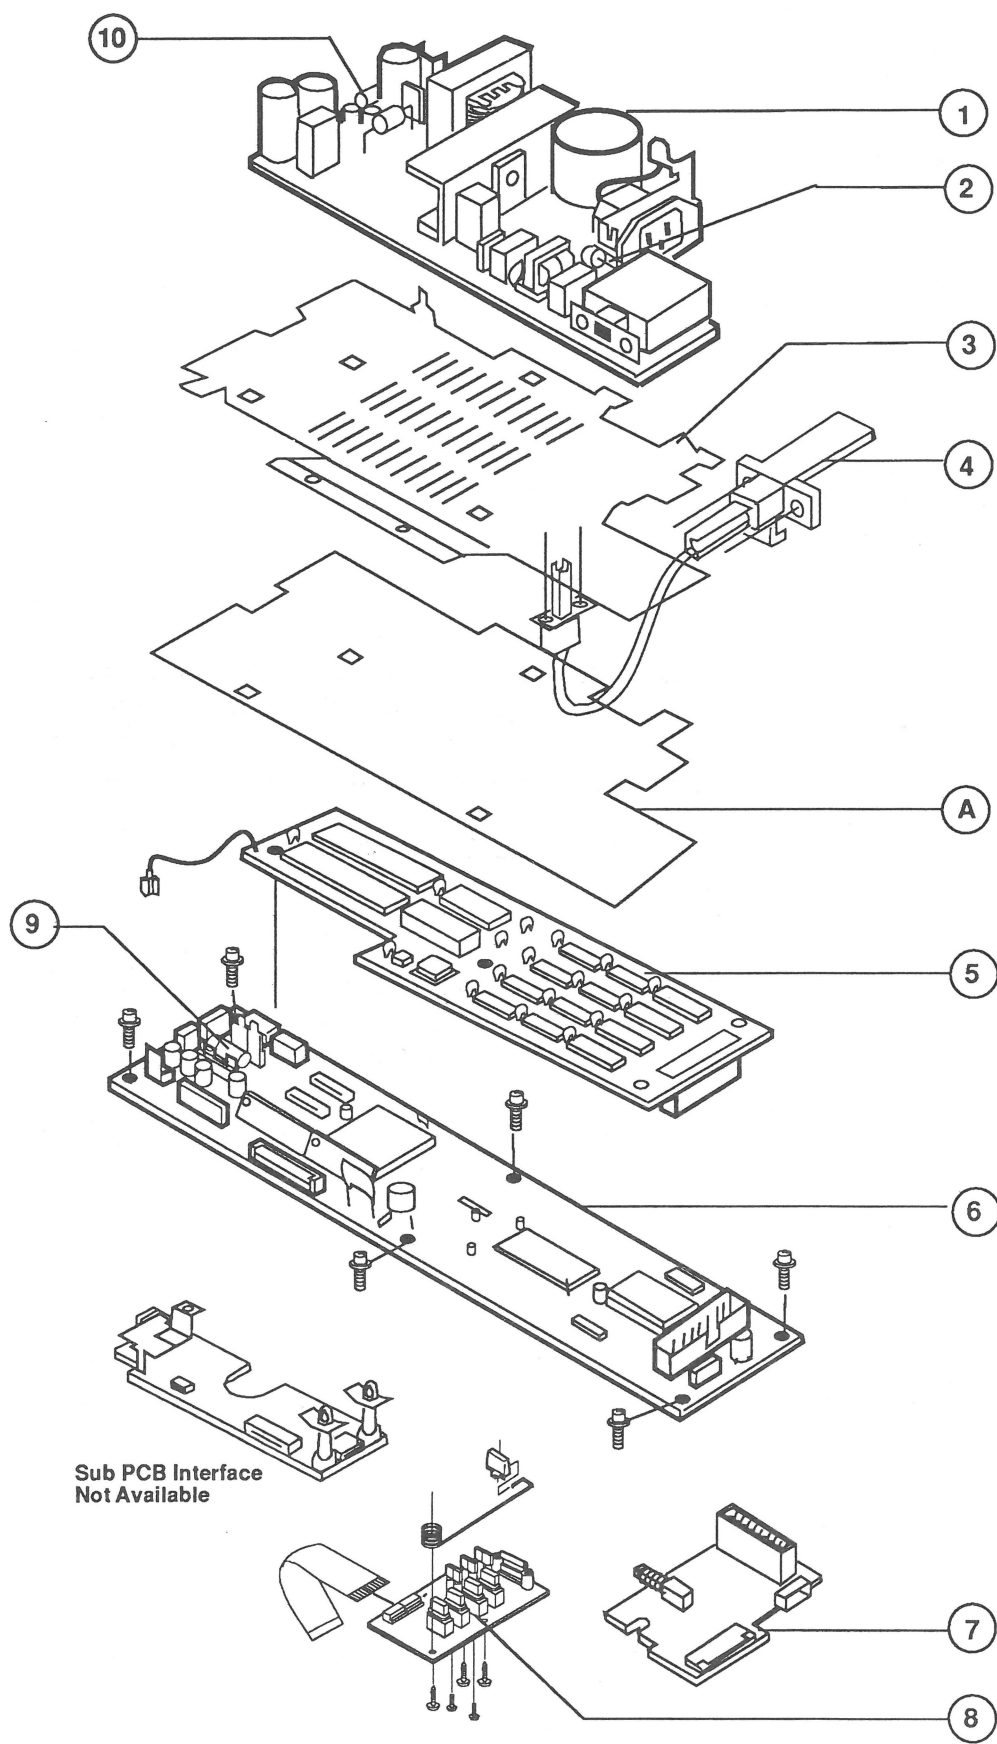

FIGURE 7
□ IMAGEWRITER II/L PCBs (Figure 7)
Note: The following screws, E-clips, etc., are used in the parts shown in Figure 7:
Note: The part shown as item A in Figure 7 is not available separately. It is part of the ground plate assembly for the 220/240V power supply.